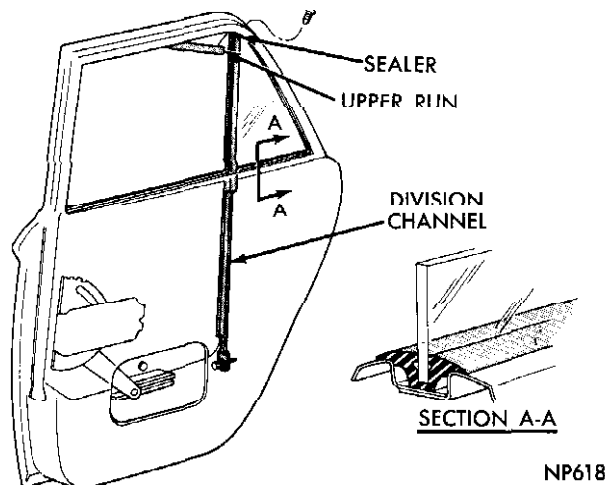

Fig. 26—Rear Door Stationary Glass—Sedan
- (1) Remove division channel attaching screws at upper and lower ends (Fig. 26) and remove channel.